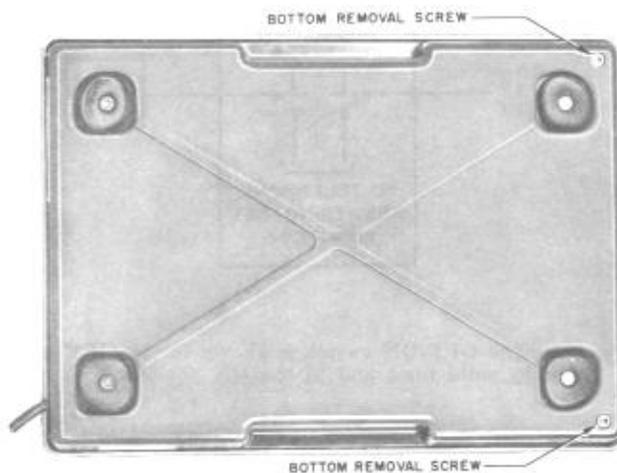

Fig. 4 — Location of Bottom Removal Screws
1.10 Cover removal of the 2A telephone answering set is shown in Fig. 4, 5, and 6.